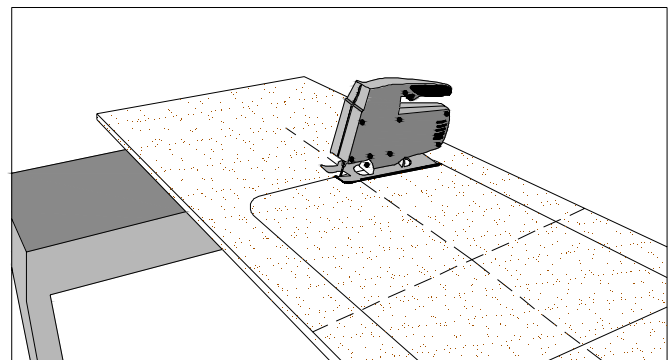

Figure 14C
- Using a jig saw, cut the substrate along the pencil outline of the sink. (FIG. 14C)